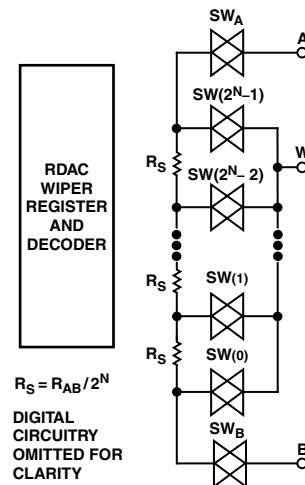

Figure 9. Equivalent RDAC Structure (Patent Pending)
The patent pending RDAC contains multiple strings of equal resistor segments, with an array of analog switches, that act as the wiper connection. The number of positions is the resolution of the device. The AD5233 has 64 connection points allowing it to provide better than 1.5% set ability resolution. Figure 9 shows an equivalent structure of the connections between the three terminals of the RDAC. The SW_A and SW_B will always be ON, while one of the switches SW(0) to SW(2^N - 1) will be ON one at a time depending on the resistance position decoded from the Data Bits. Since the switch is not ideal, there is a 15 Ω wiper resistance, R_W. Wiper resistance is a function of supply voltage and temperature. The lower the supply voltage or the higher the temperature, the higher the resulting wiper resistance. Users should be aware of the wiper resistance dynamics if accurate prediction of the output resistance is needed.
The 6-bit data word in the RDAC latch is decoded to select one of the 64 possible settings. The following discussion describes the calculation of resistance R_{WB} at different codes of a 10 k Ω part. For $V_{DD} = 5$ V, the wipers first connection starts at the B terminal for data 00_H. $R_{WB}(0)$ is 15 Ω because of the wiper resistance and it is independent of the nominal resistance. The second connection is the first tap point where $R_{WB}(1)$ becomes 156 Ω + 15 Ω = 171 Ω for data 01_H. The third connection is the next tap point representing $R_{WB}(2) = 312 + 15 = 327$ Ω for data 02_H and so on. Each LSB data value increase moves the wiper up the resistor ladder until the last tap point is reached at $R_{WB}(63) = 9858$ Ω . See Figure 9 for a simplified diagram of the equivalent RDAC circuit. When R_{WB} is used, the A-terminal can be let floating or tied to the wiper.